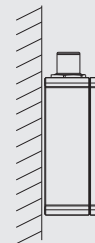

Fig. 2 Standard mounting position with most precise measurement without tilting of the sensor
**i** To ensure most precise measurement the sensor should be positioned without tilting as shown, see Fig. 2.